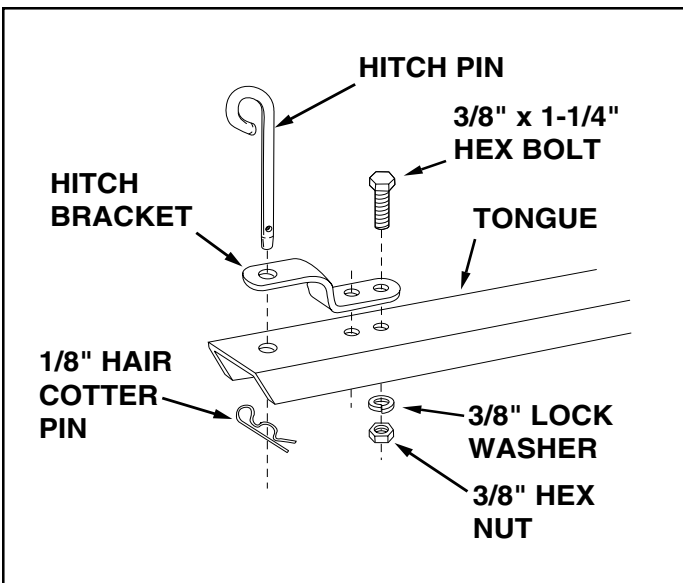

FIGURE 3
- Assemble the hitch bracket to the drawbar tongue using two 3/8" x 1-1/4" hex bolts, 3/8" lock washers and 3/8" hex nuts. **Tighten.** See figure 3.
- Assemble hitch pin to tongue/ hitch bracket and secure with 1/8" hair cotter pin. See figure 3.